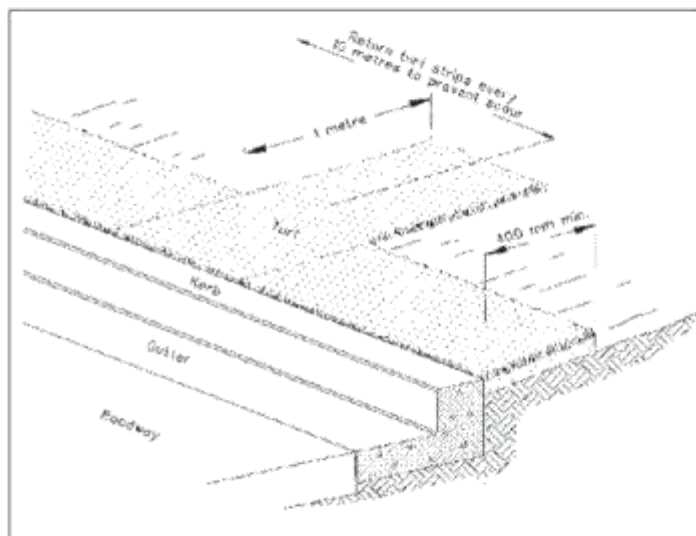

Figure 6A: Planted turf strip.
**Vegetation is the most effective soil stabiliser available on building and construction sites.** Keep groundcover along surface drainage areas and on steeper slopes. Retain significant areas of healthy grass down-slope of the worksite, these strips can be highly effective for filtering out coarse sediment. The flatter and wider the strips are, the more effective they become. Native vegetation along streams and waterways should be retained and protected from sediment by installing additional sediment control measures up-slope e.g. fibre rolls and sediment fences (see Fact Sheet 14). On exposed sites a 400 mm wide planted turf strip between the kerb and the footpath is a good last resort sediment control, filtering the runoff before it enters the stormwater system (see Figure 6A).
Text in this brochure has been obtained and modified from the "Do It Right On Site" brochure series, kindly provided by the Southern Sydney Regional Organisation of Councils. Figure 6A from Landcom 2004 "Soils & Construction Volume I Managing Urban Stormwater (4th edition)".